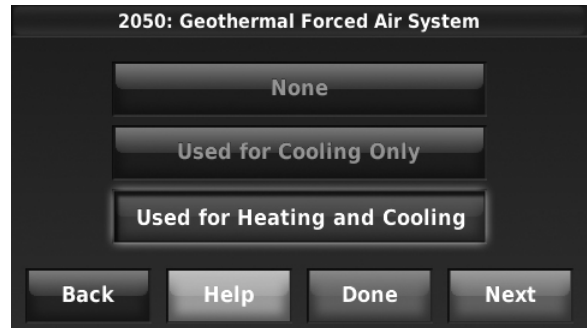

Fig. 202.
4. Select the Geothermal Radiant Heat Options. For example: If this zone is Geothermal Radiant Heat only – select None. See Fig. 202.